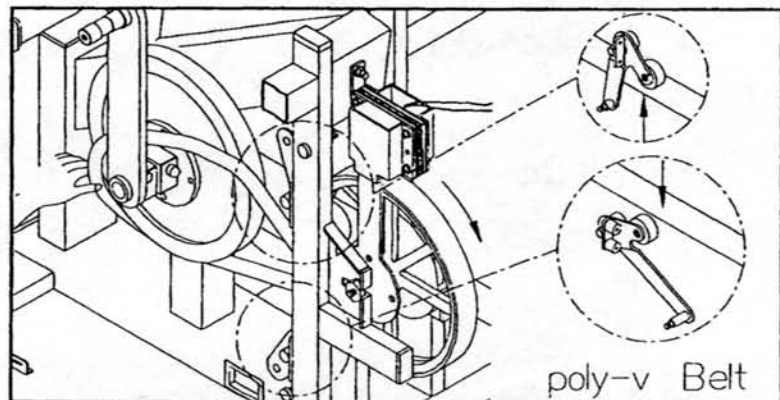

Fig.5-8
3. Suspend the Poly-V Belt at the position as (Fig.5-8) and place the IDLER WHEEL as the corrective position as the enlarged figure (Fig. 5-8). Turn the PULLEY WHEEL clockwise direction and make the belt onto the WHEEL.